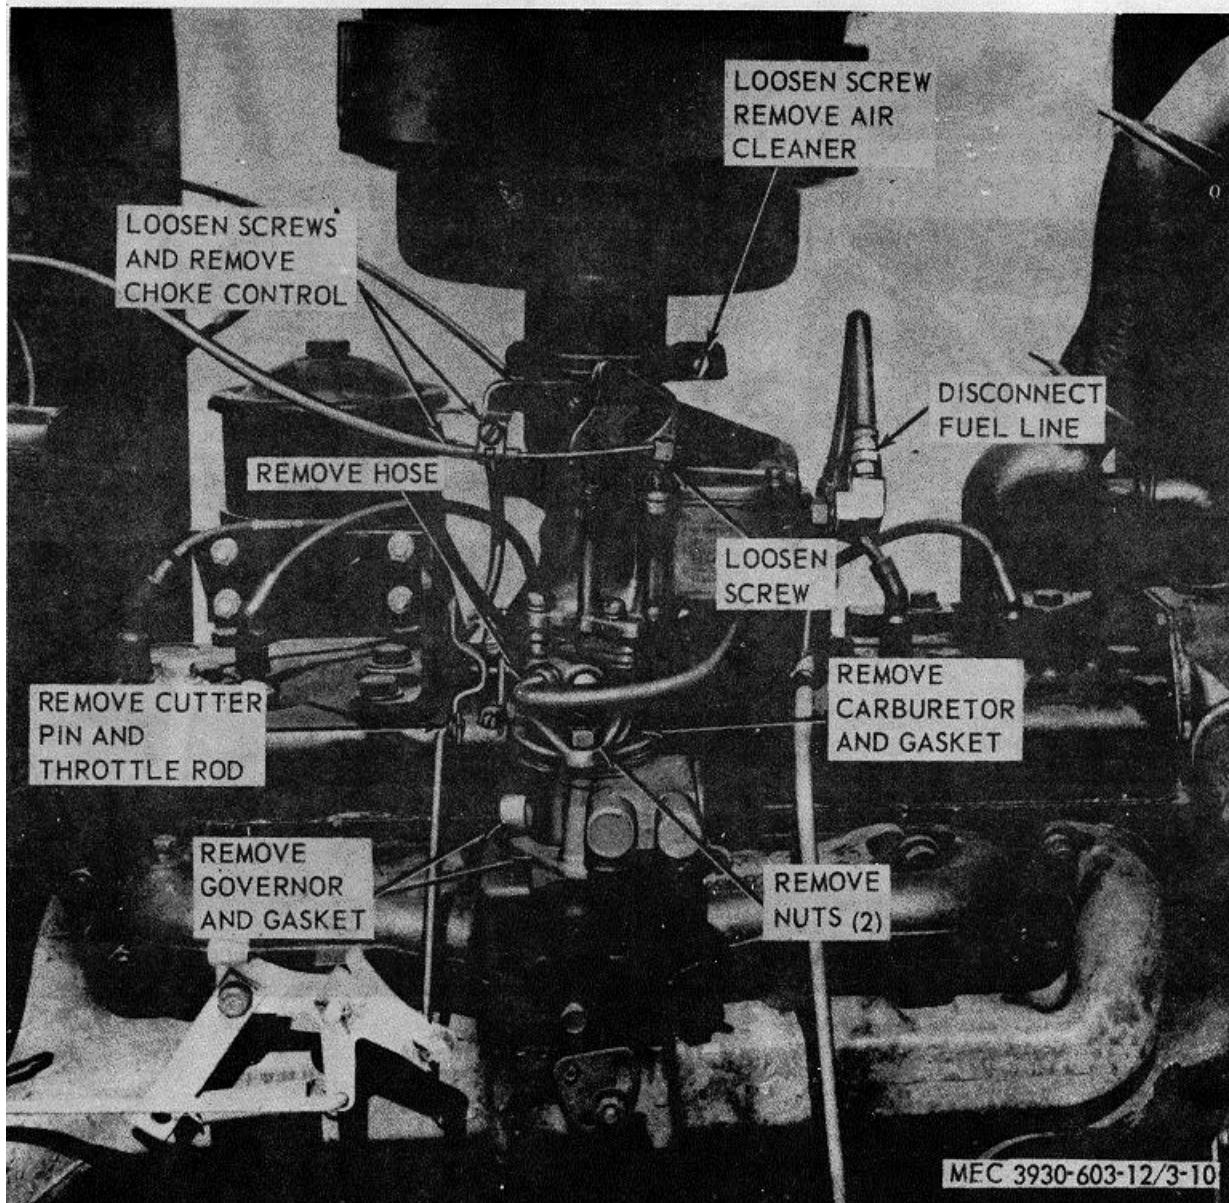
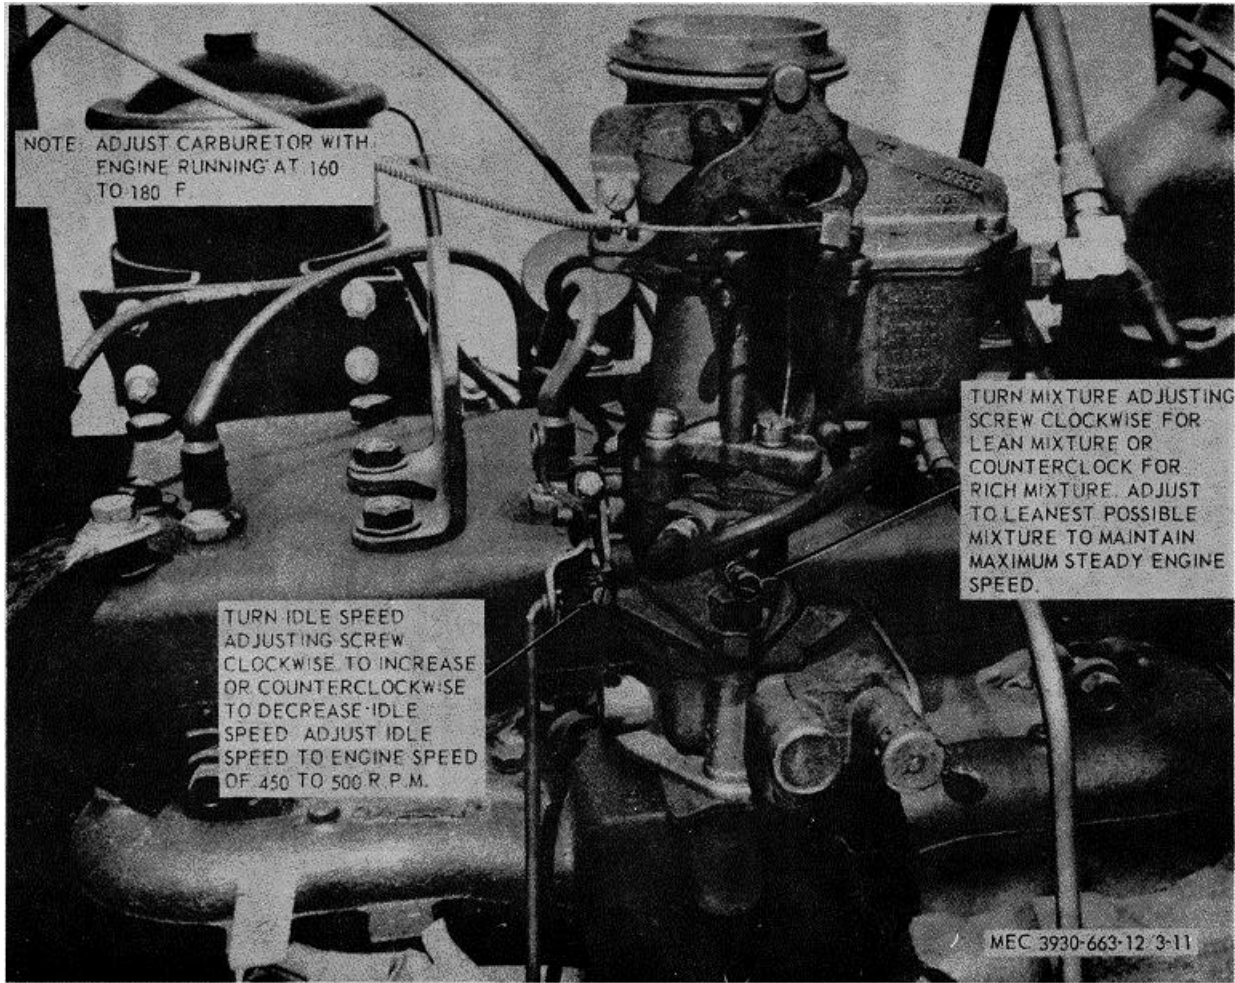

Figure 3-10 Carburetor and governor, removal and installation.
Figure 3-11. Carburetor adjustment.
a. *Removal.* Remove carburetor as illustrated in figure 3-10.
(1) Install carburetor as illustrated in figure 3-10.
(2) Adjust carburetor (*d* below).
d. *Carburetor Adjustment.* Adjust carburetor as illustrated in figure 3-11.
a. *Removal.* Remove carburetor and governor assemblies as illustrated in figure 3-10.
(1) Refer to figure 3-10 for installation of governor and carburetor assemblies.
(2) Adjust carburetor (para 3-25).